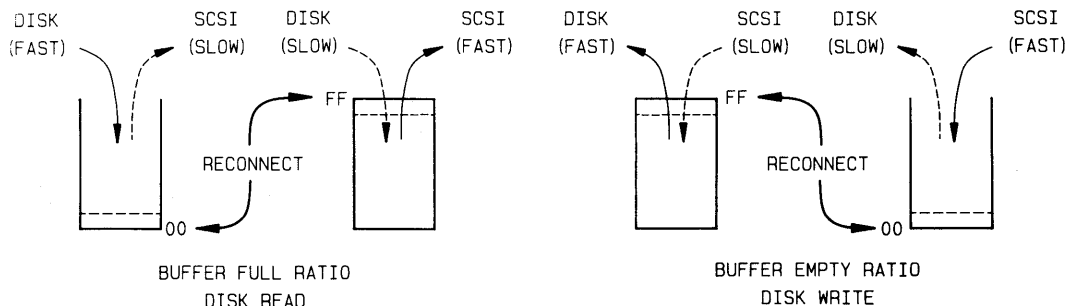

Figure 4-2: Buffer Full and Empty Ratios
2. Set the Buffer Full Ratio and Buffer Empty Ratio (see the Q200 Series Programmers Manual for details) to improve bus utilization by optimizing disconnect/reconnect phases. In the following examples, a rough rule of thumb is that the drive can transfer data to and from the 14 KByte buffer memory at a maximum rate of about 14 KBytes/14 ms and at a sustained rate, including wedges, of about 14 KBytes/19 ms. When the drive is seeking, transfers to and from the disk are delayed. See Figure 4-2 for a diagrammatic representation of the situation.